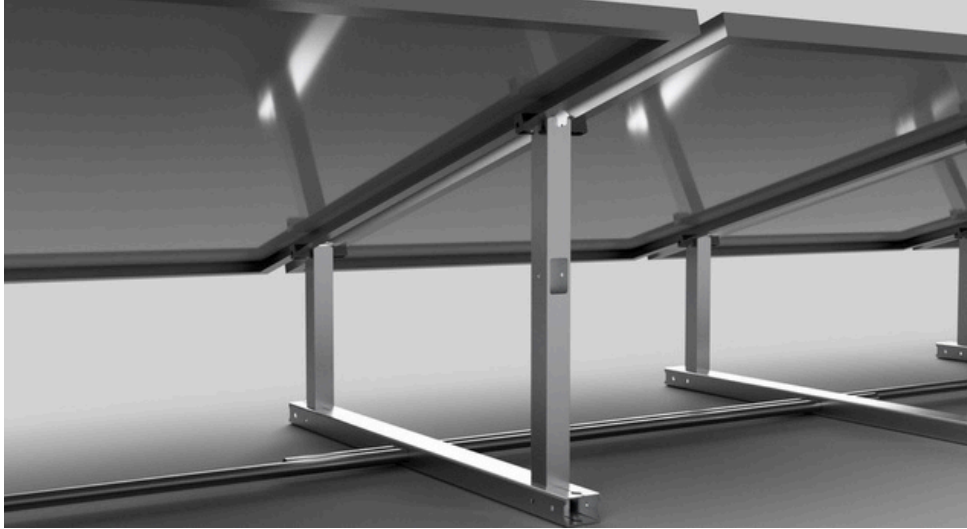

Figure 41
- We recommend installing the tall leg with the opening facing the back of the frame (See Figure 41).